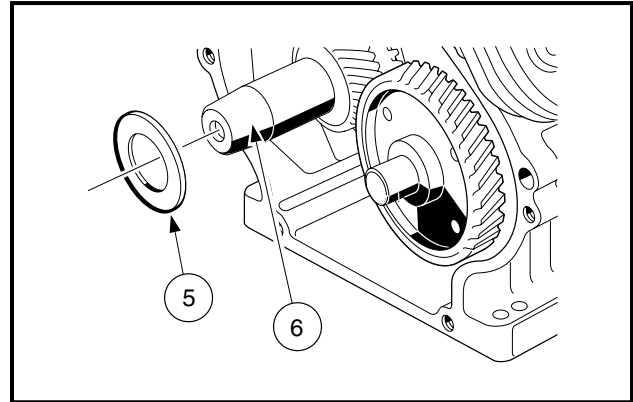

Figure 18-91 Install Shim On Crankshaft
5. Install the shim (5) on the crankshaft (6) (Figure 18-91, Page 18-42).